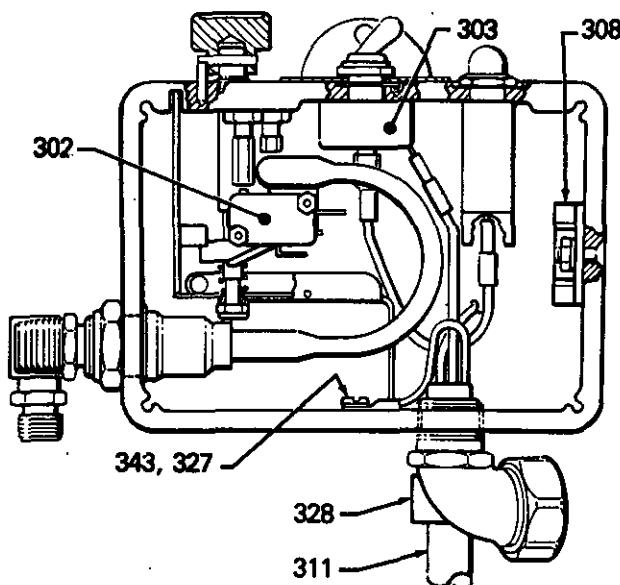

Fig. 15
2. Disconnect the power supply cord lead from the ON/OFF switch (303), the white wire going to the bridge (308), and the green wire to the grounding screw (343) and lockwasher (327). See Fig 15.
3. Loosen the strain relief bushing (328). Remove the power supply cord (311).
2. Use a needle nose pliers to disconnect the upper terminal wire from the microswitch (302) for ease in removing the ON/OFF switch (303). Refer to Fig 15.
3. Use the pliers to disconnect the two black wires from the ON/OFF switch (303). Refer to Fig 15.
9. Reconnect the wires to the ON/OFF switch (303) and reconnect the wire to the microswitch (302). Refer to Fig 15.